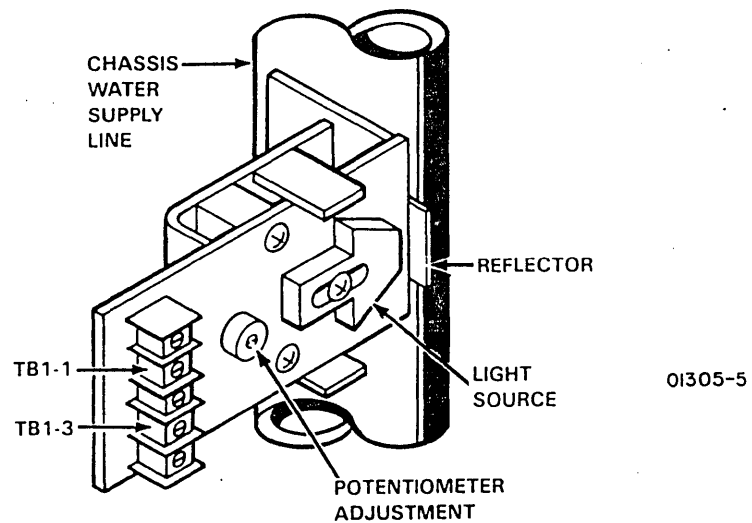

Figure 4-24. IOU Low-Temperature Sensor Assembly
- ___ b. Reconnect multimeter ground and to +12 V test points on regulator board (figure 4-24).
Place multimeter leads lightly on TBI terminals (figure 4-24) to prevent bending of the low-temperature assembly. Bending may cause an erroneous voltage reading.